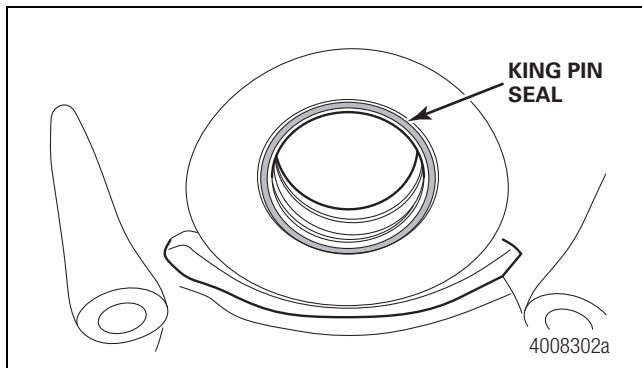

Figure 8.5
6. Install the upper and lower king pin seals into the inner side of both bushing bores. The seals must be installed with the flat side facing in and the seal lip facing out. Figure 8.5.